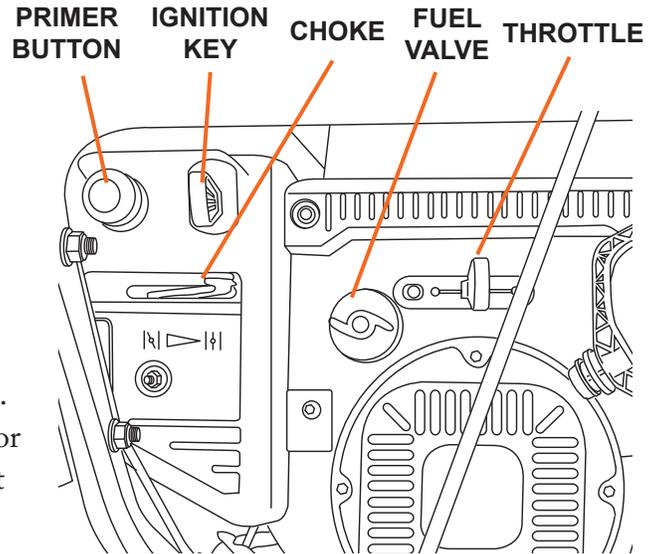

Figure 11
1. To start a cold engine, move the choke to the CHOKE position (to the left). To restart a warm engine, leave the Choke in the RUN position (to the right). (See Figure 11).